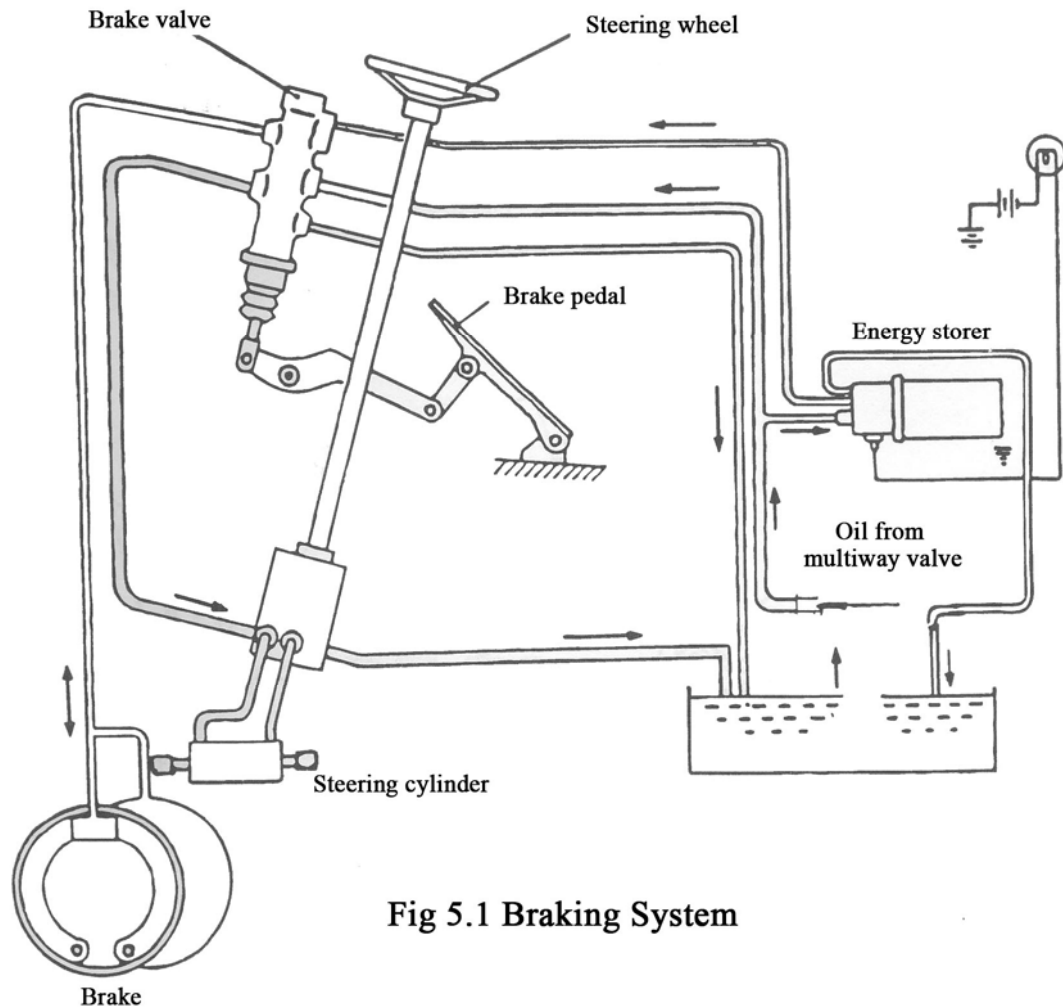

Fig 5.1 Braking System
5.2 Power braking (Systemic diagram is shown in Fig 5.1)